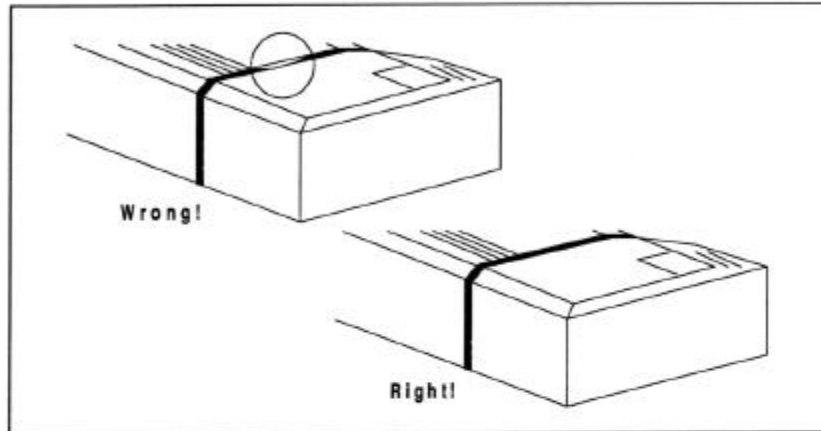

Figure 12-5 When screwing on the bottom section ensure that the rubber gasket fits properly
5. Plug in flat strip cable again and slip on bottom section. In doing so ensure that the flat strip cable's plug is not plugged in out-of-line. The mechanical interlock must engage. Slightly tighten allen socket screws. Before fastening the screws, check rubber gasket fit. The gasket must be flush with the casing surfaces on all sides. It must not be dislocated (Figure 12-5).